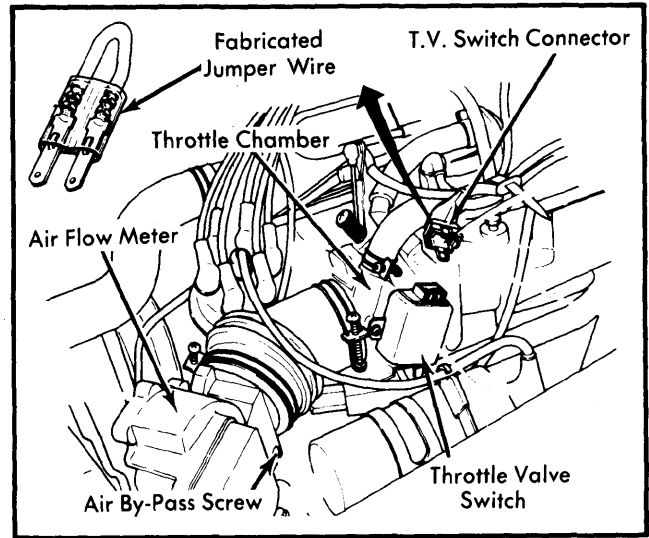

Fig. 3 Idle Mixture Adjustment (CO%)
4) Check and, if necessary, adjust ignition timing. Connect a jumper wire between throttle valve switch harness connector terminals No. 24 and No. 30. See Fig. 3. Insert CO meter probe into tail pipe at least 16".